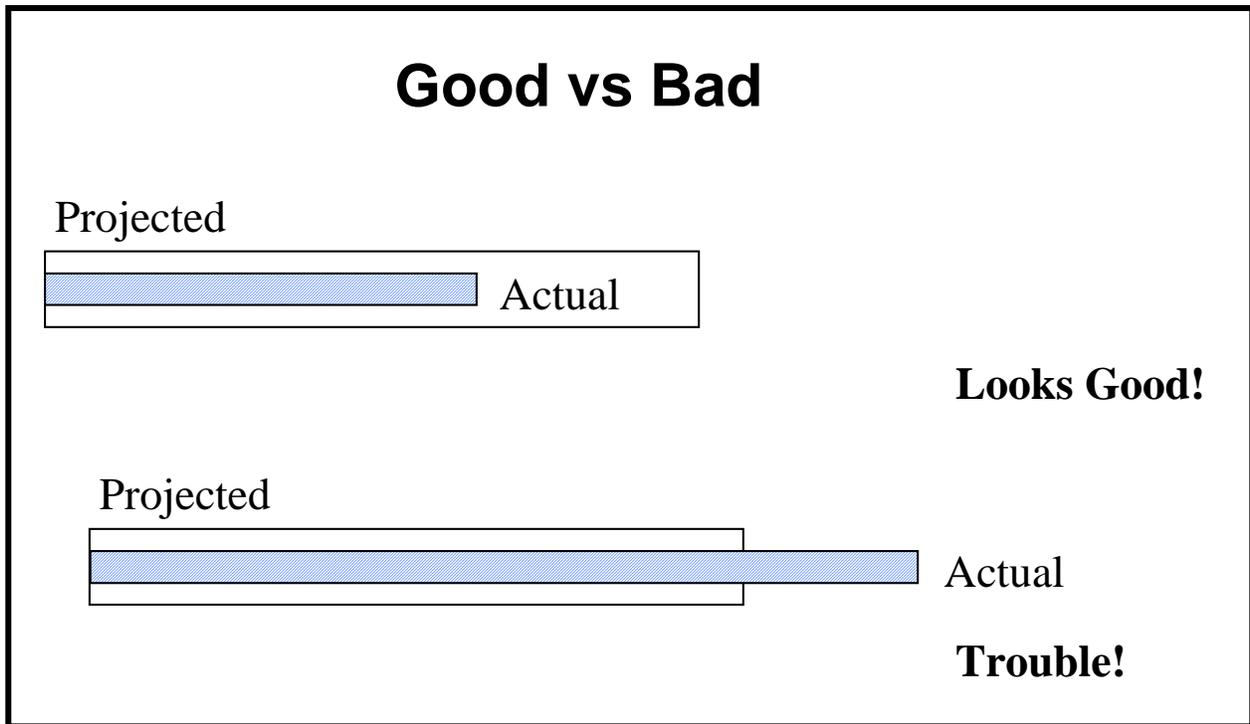

Figure 64. Evaluating Actual versus Projected Job Processing Time
- Bars in the **View Region** of **TimeScape** indicate projected and actual time involved in job processing (refer to Figure 64.):